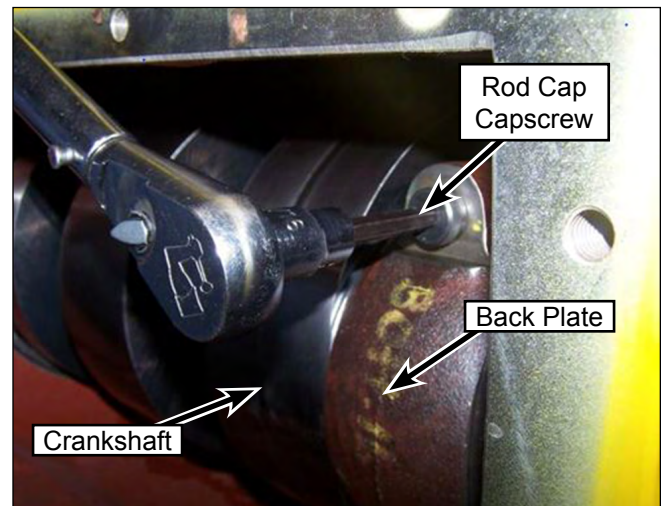

Figure 115: Remove Capscrews.
4. Remove the rod cap capscrews (Figure 115) from each rod journal. Rotate the crankshaft to gain access to the capscrews as needed..